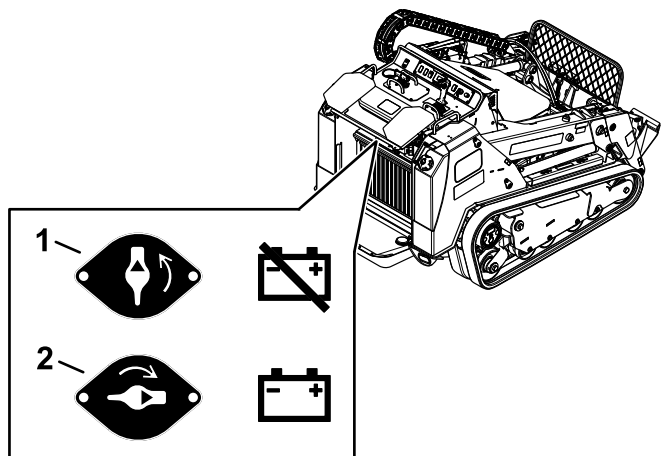

Figure 1
5. Turn the battery-disconnect switch to the OFF position (Figure 1).